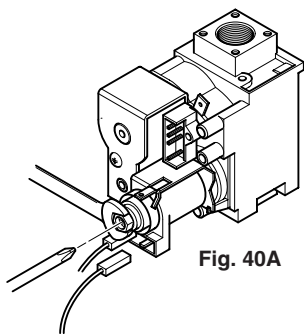

Fig. 40A
- Remove the plastic cap and using a suitable spanner adjust the brass nut to give a maximum output setting pressure of 10.6 mbar (Fig. 40A).
- Disconnect one of the modulator wires from the gas valve. Adjust the red screw to achieve the correct minimum output setting pressure of 1.7 mbar (Fig. 40A).